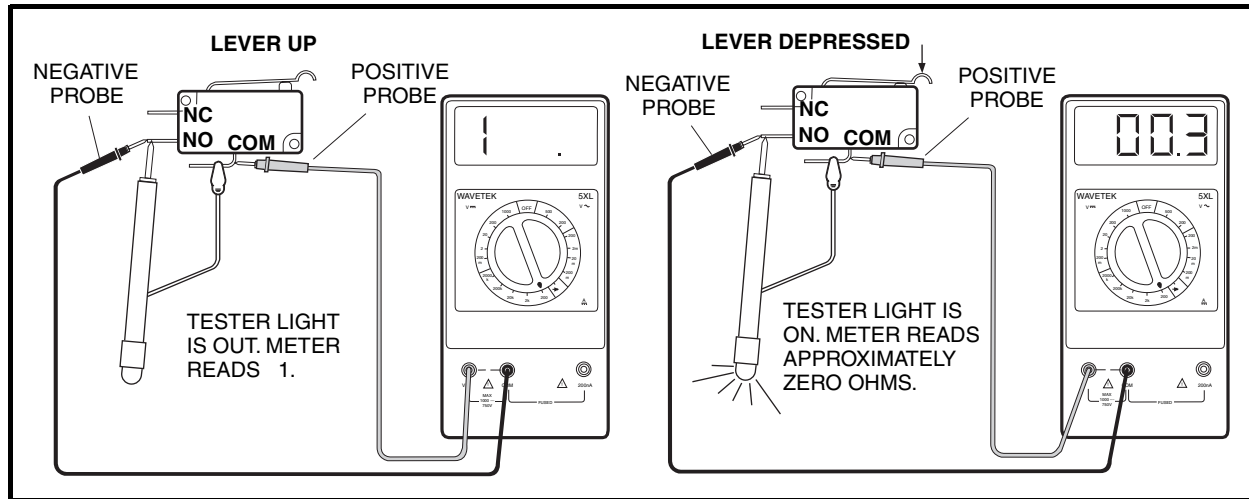

Figure 11-32 Test Lockout Cam Limit Switch
4. Set the multimeter to 200 ohms. Place the red (+) probe of the multimeter on the common (COM) terminal of the limit switch. Place the black (–) probe on the normally open (NO) terminal of the switch. Without the lever pressed, the reading should be no continuity. Press the lever, and the reading should be continuity. If either reading is incorrect, replace the limit switch (**Figure 11-32, Page 11-28**).